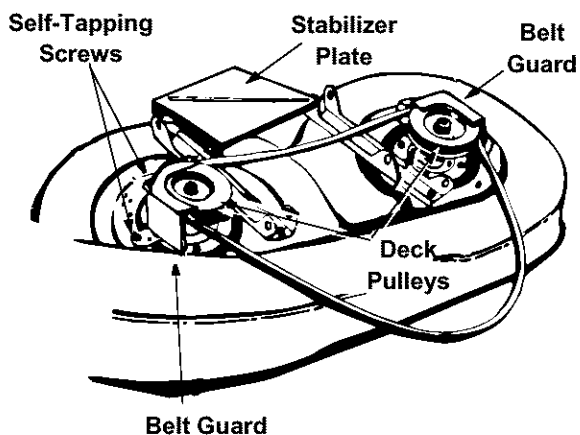

Figure 23
NOTE: Figures 23, 27 and 28 are shown with the unit tipped up for clarity. It is not necessary to tip the unit to remove the belts.
- Remove the belt guards at each deck pulley by removing the self-tapping screws. See Figure 23.